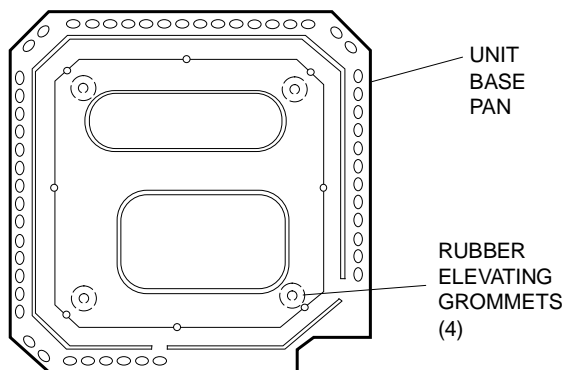

FIGURE 2- POSITIONING GROMMETS
4. To reduce noise and to enhance drainage, sit unit on (4) rubber elevating grommets provided in bulk packed accessory kit model number 1SG0601. Grommets should be positioned as shown in Figure 2.